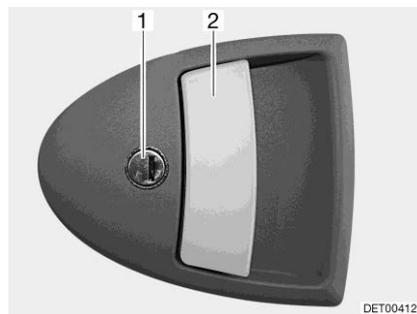

Fig. 35 Door lock (conversion door, outside)
- Insert the key into locking cylinder (Fig. 35,1) and turn until the door lock is unlatched.
- Pull on the door handle (Fig. 35,2). The door is open.
- Insert the key into locking cylinder (Fig. 35,1) and turn until the door lock is engaged.